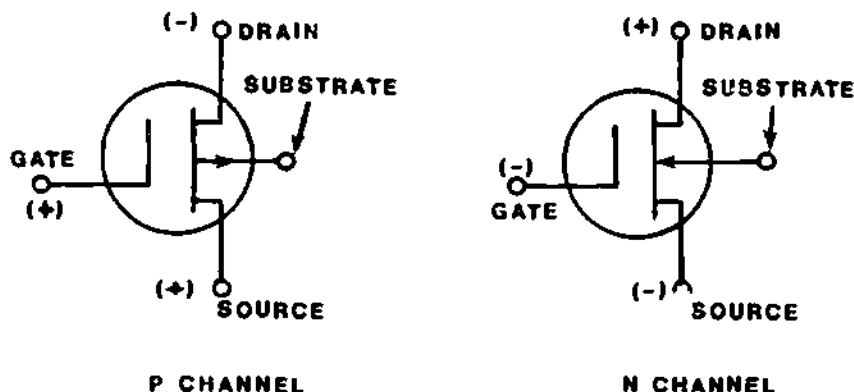

Figure 15
16. There are two types of MOSFETs: N-channel and P-channel. The labeled schematic symbol for each type is shown in Figure 15.